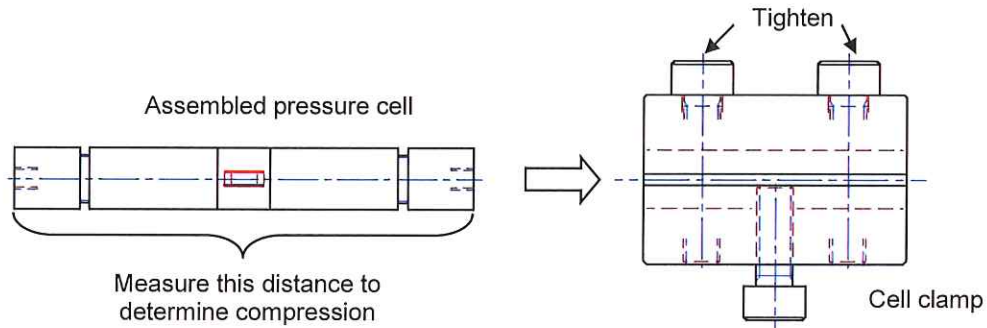

Fig 8 Measuring compression and inserting pressure cell to clamp
- 1) Measure the pressure cell length. This will be used as a reference so the amount of compression can later be determined (fig 8 for the recommended dimension to measure).
- 2) Insert the pressure cell to the cell clamp. Cinch the pressure cell in place with the two hex screws. Note the third hex screw is used to slightly pry the cell clamp apart in case the cell does not easily slide into the cell clamp (fig 8).